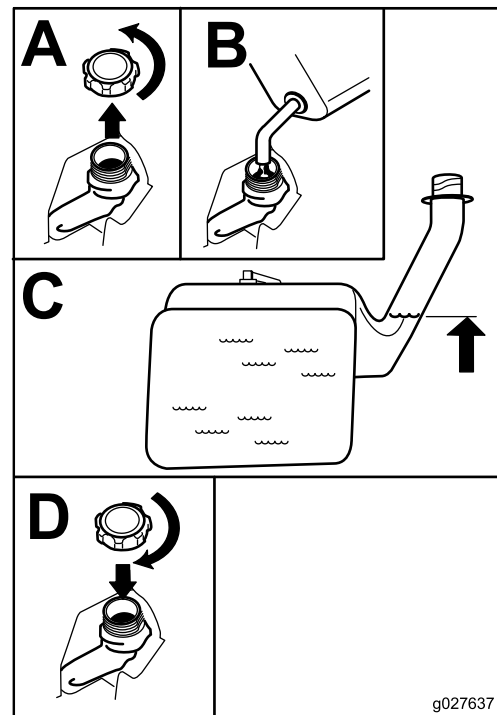

Figure 7
2. **Slowly** add regular, unleaded gasoline until the fuel reaches the base of the filler neck Figure 7.